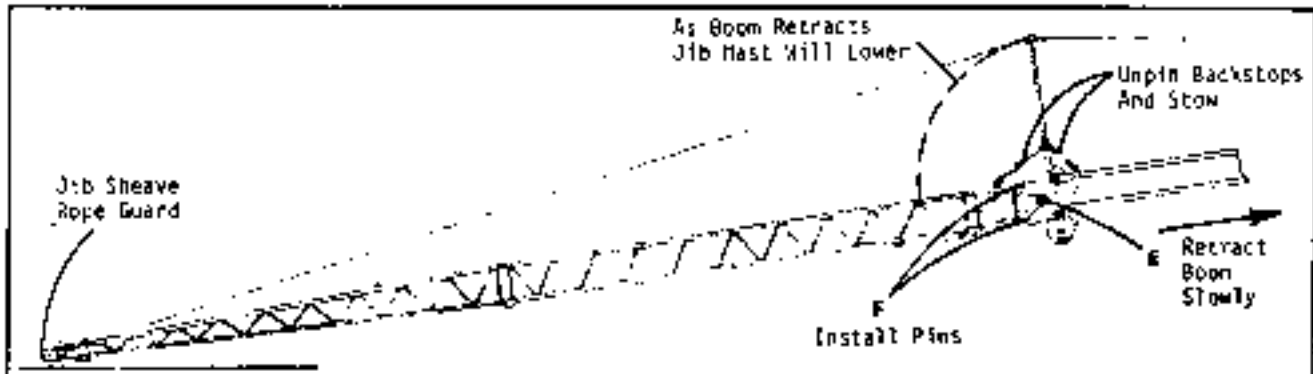

Fig. 4-39
- (c) Carefully retract the boom tip section until the jib mast lowers forward on the jib. When retracting the tip section, keep the jib head sheave off the ground. Refer to Fig. 4-39.